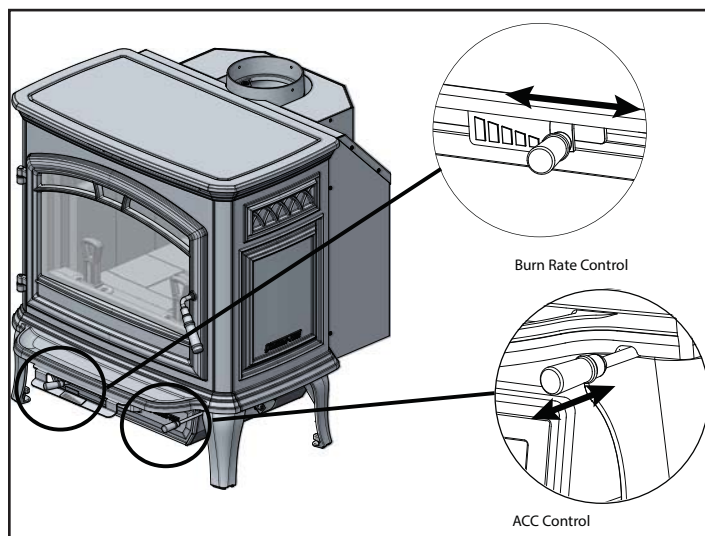

Figure 9.1
flames tend to go out, the air control it is set too low for your burning conditions. The air control located below the ash lip is used to adjust for burn rates. This is called the Burn Rate Air Control. **Figure 9.1**
This air supply enters at the lower front of the firebox, near the bottom of the glass door. This preheated air supplies the necessary fresh oxygen to mix with the unburned gases, helping to create second, third and fourth combustions. This air is regulated by the Burn Rate Air Control. There are four settings High, Medium-High, Medium-Low and Low. When the control is moved all the way to the left it is on the High setting and when moved all the way to the right it is on the Low setting. **Figure 9.1**
closed at the end of the 25 minutes. The fire is now controlled by the air supplied by the Burn Rate Air Control. This function should be performed each time you reload the appliance. The second function is to maximize heat output. To achieve a high burn push the ACC Air Control lever in and leave in. This combined with having the main burn rate control lever pushed to the left will deliver the most amount of air needed to achieve the highest amount of heat output. **Figure 9.1**
1. This appliance has a timer system (ACC) that operates the appliance at its maximum efficiency removing any guess work for the homeowner. Follow the instructions below for each burn rate for the Start-Up Air Control and Burn Rate Air Control. **Figure 9.1**